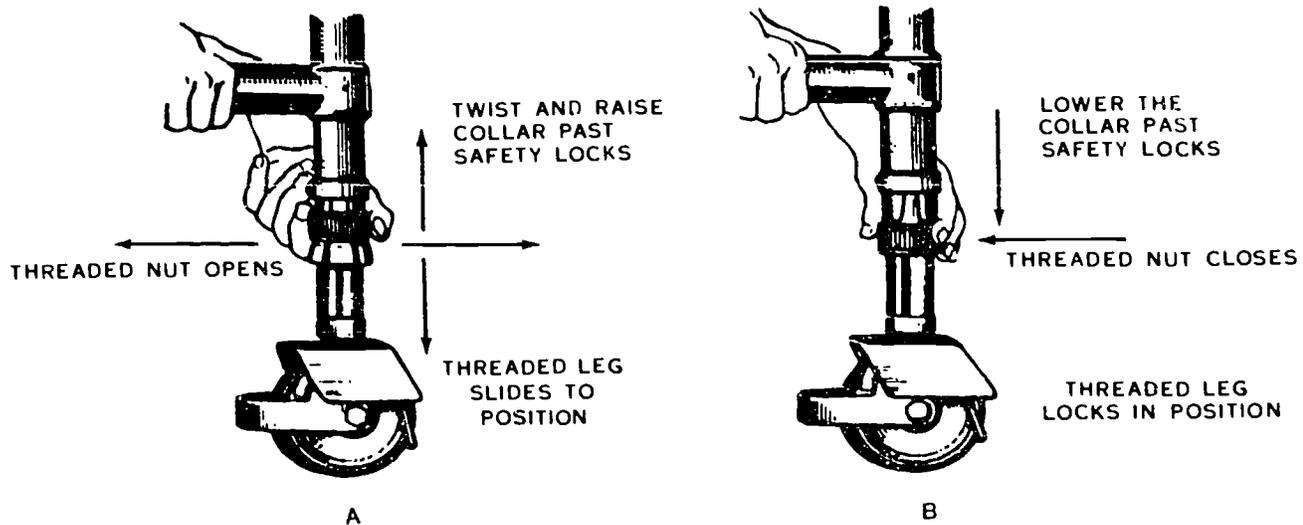

FIGURE 18. Level the scaffold
d. Level the scaffold by operating the leg adjustment, as shown in Figure 18. Never use a scaffold unless the leg adjustment is in perfect working order.